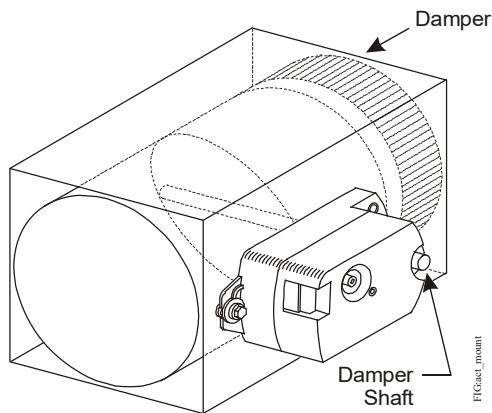

Figure 4: Mounting the actuator onto the damper shaft
- Make a note of the rotation range and direction, either Clockwise (CW) or Counterclockwise (CCW), required to close the damper.
- Position the actuator onto the damper shaft so that the damper shaft protrudes through the actuator coupler, as illustrated in Figure 4.